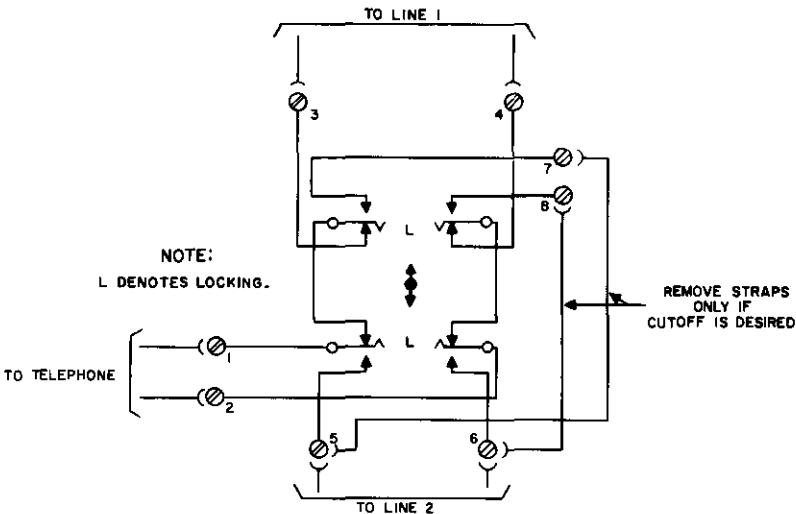

Figure 8. Two-Line Pickup.
4.12 Two-line pick-up permits access to either of two lines from the same telephone. Make the following connections to the key terminal strip for two-line pick-up (Figure 8):